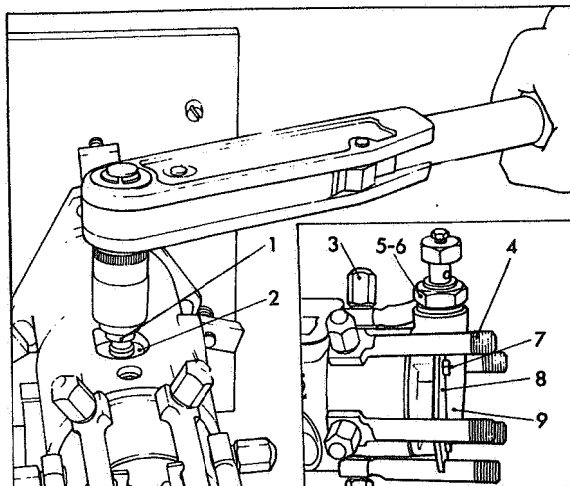

Fig 39 Loosening cam advance screw
Using Tool Part No 7144-14 as shown in Fig 39, slacken cam advance screw (1). If necessary, lightly tap cam advance screw to release cam ring (2). Invert the fixture in vice. Remove pressurising valves (3) and banjos (4) noting both their position and type, and the letter identification against the outlet holes. Remove inlet connection and washer (5 & 6).